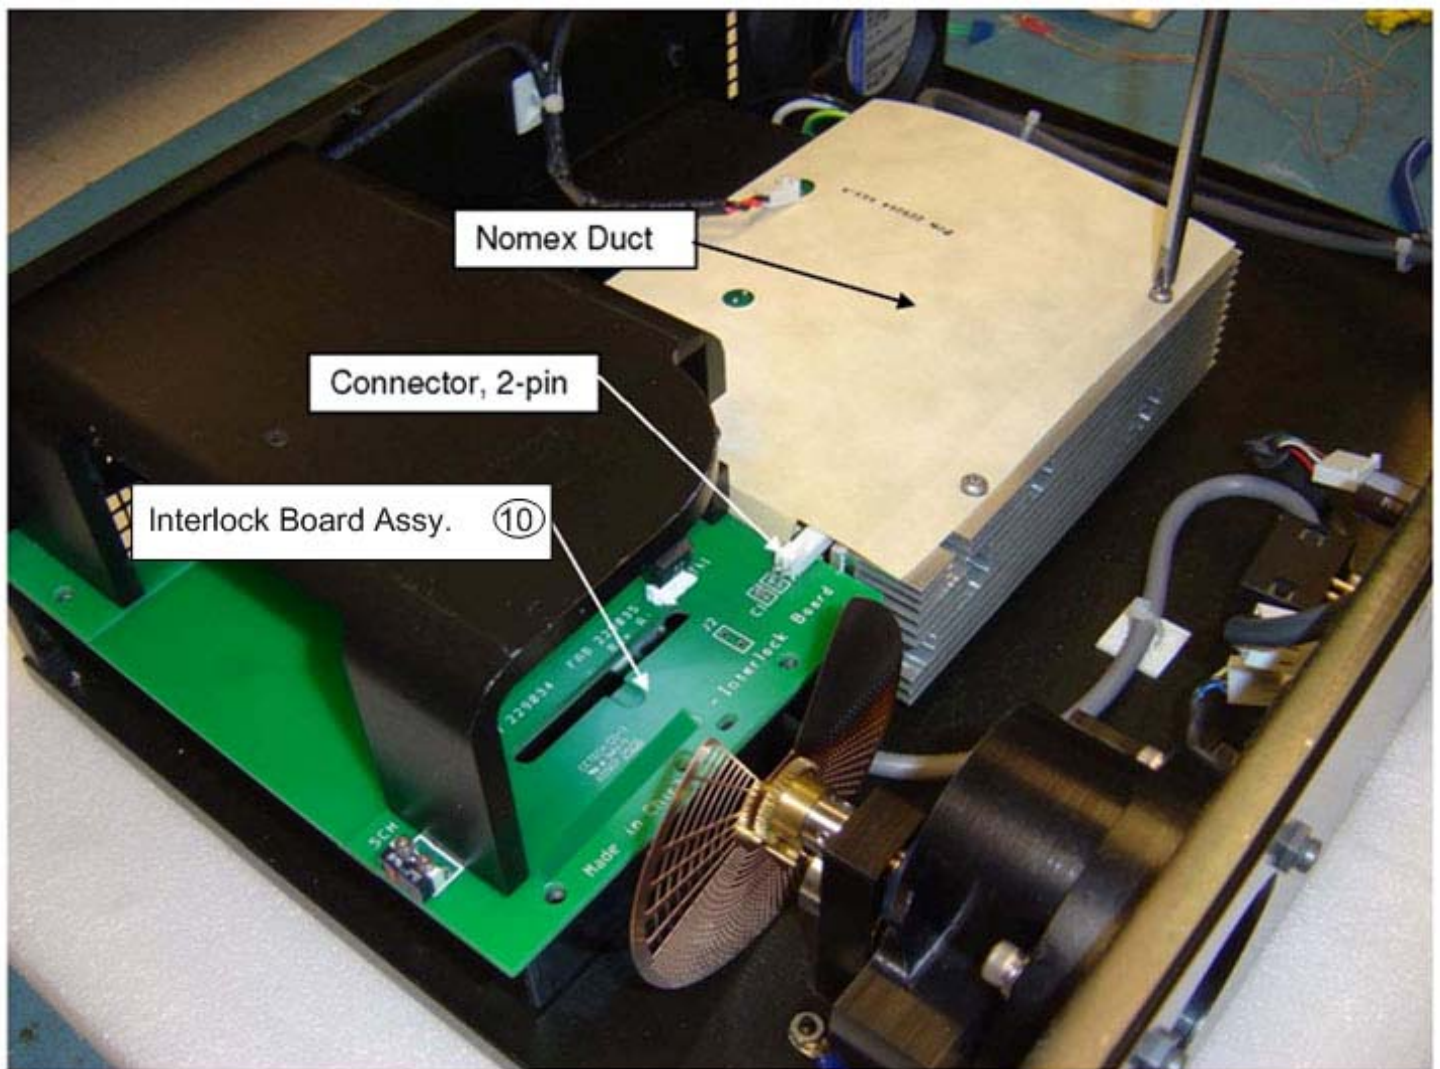

Figure 23
6. Remove the two 6-32 screws securing the nomex duct to the power supply – Fig. 23.
8. Disconnect the 2-pin (J1) connector from the interlock board – Fig. 23.